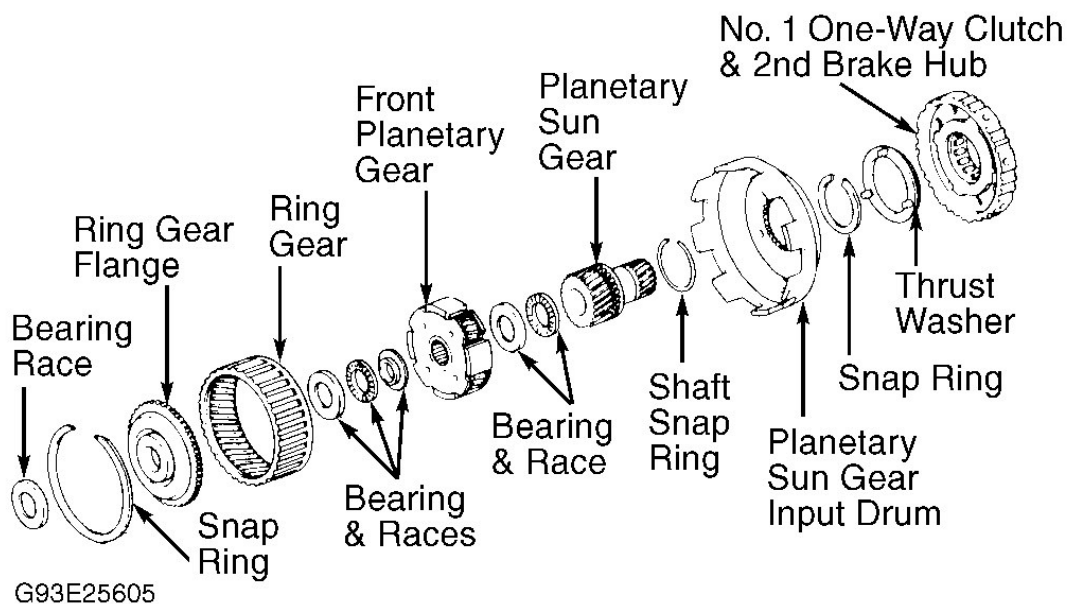

Fig. 28: Exploded View Of Front Planetary Gear
2. Remove thrust washer from sun gear input drum. Remove snap ring. Remove sun gear input drum. Remove shaft snap ring from sun gear. Remove one-way clutch retainer if clutch requires replacement. Remove one-way clutch from hub. See **Fig. 28**.
Install shaft snap ring to sun gear. Install sun gear to drum. Install snap ring to drum. Install thrust washer to sun gear input drum. See **Fig. 28**. Rotate hub clockwise. Install one-way clutch and 2nd brake hub. Check one-way clutch operation. Hold sun gear and rotate hub. Hub should rotate freely clockwise and lock counterclockwise.